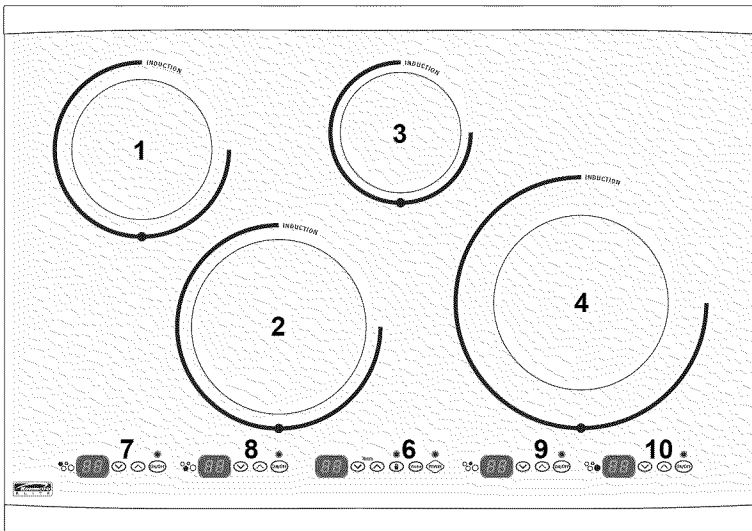

Fig. 1 - 30" Model
1. Left Rear Cooking Zone (Fig. 1 & 2)
2. Left Front Cooking Zone (Fig. 1 & 2)
3. Right Rear Cooking Zone (Fig. 1 & 2)
4. Right Front Cooking Zone (Fig. 1 & 2)
6. Main Cooktop Controls (Fig. 1, 2 & 3)
7. Left Rear Cooking Zone Control Pads (Fig. 1 & 2)
8. Left Front Cooking Zone Control Pads (Fig. 1 & 2)